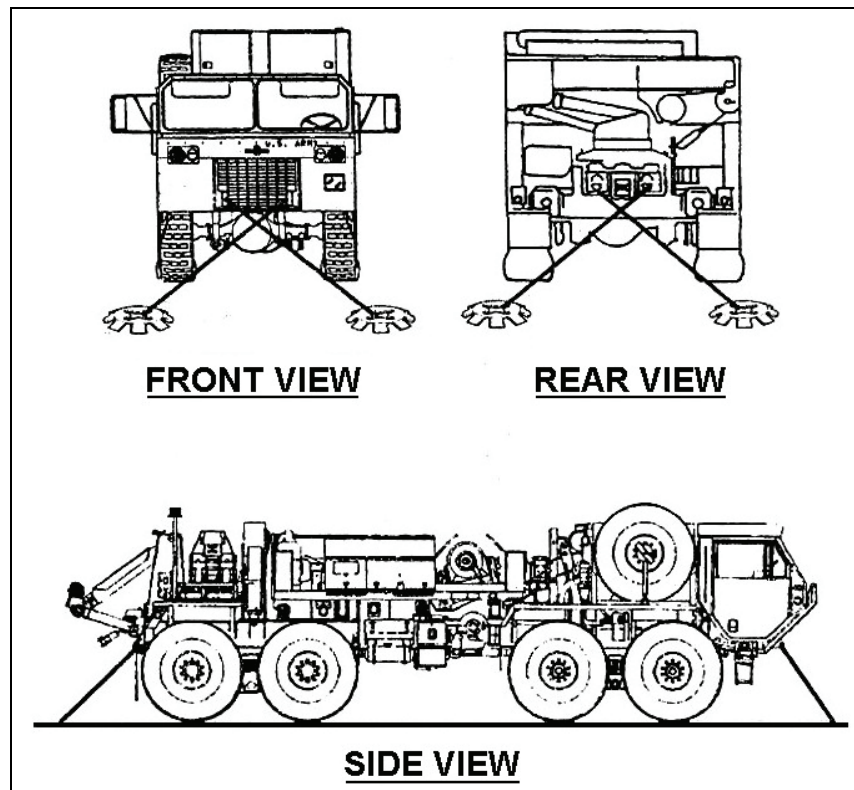

Figure 3-70. Stowing Wheeled Vehicles
1. Stow wheeled vehicles on RO/RO deck (see Figure 3-70).